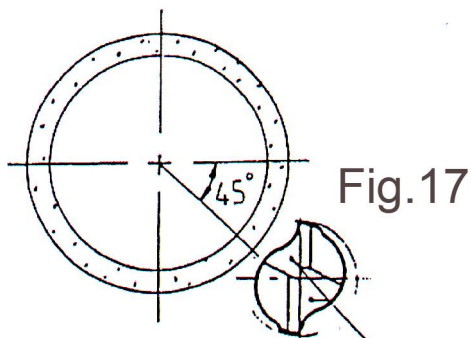

Fig.17
(10) Grinding methods as step (6)—(8).
(11) The width rate between 1st Relief and 2nd Relief face is around 1:2.
(12) The grinding angle of Axial Relief Angle is usually ground by forming a 45° angle between grinding wheel's center and cutter's center. After the 2nd Relief grinding is finished the rest could be ground by the same steps. Fig.17